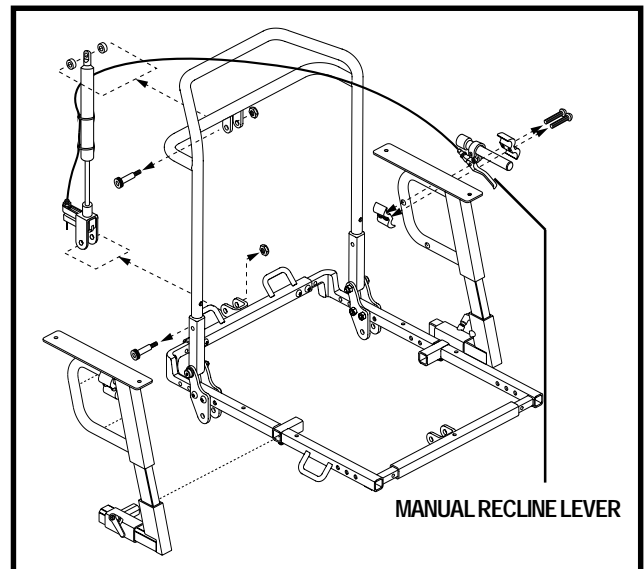

Figure 10. Manual Recline Seatback Adjustment
1. With your back pressed firmly against the seatback, squeeze the manual recline lever mounted to the armrest. See figure 10.
7. Remove the manual recline lever assembly and insert it into the clamp assembly on the opposite armrest. See figure 10.